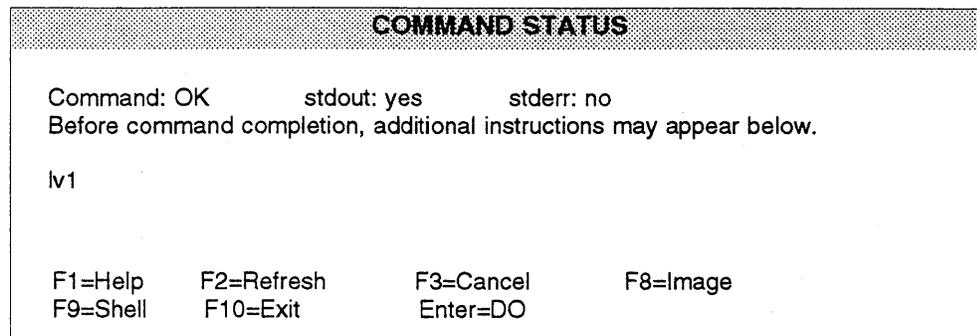

Figure 4-16: Command Status Menu
- 5 Press [ENTER] when completed. The Command Status will display as shown in Figure 4-16.